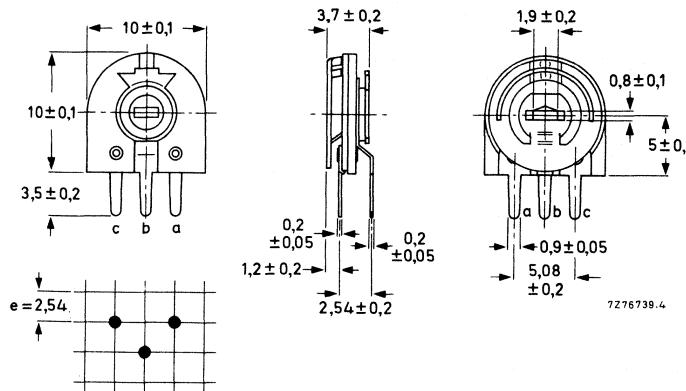

Fig.1 Potentiometer for vertical mounting 2322 410 050 ..
- 50 = vertical mounting (Fig. 1)